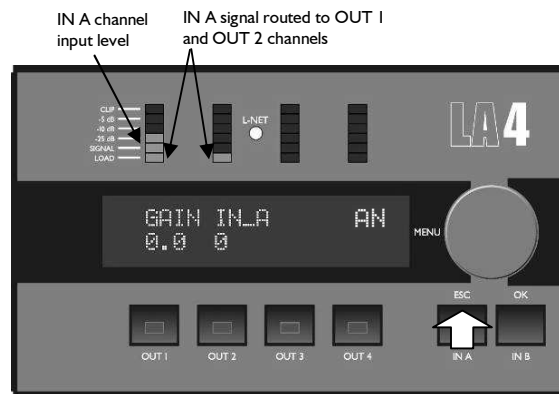
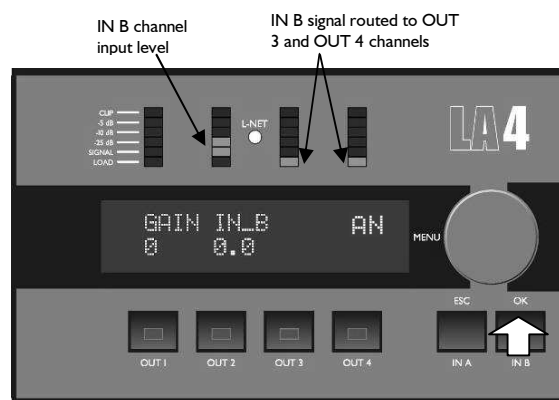

Figure 26: IN A input channel routing and level information
Figure 27: IN B input channel routing and level information
**Note:** The input mode selected for each input channel can be displayed by pressing and holding the IN A or IN B tab. As an example, the top right part of the LCD screens in Figure 26 and Figure 27 show the ANALOG type selection (AN).
As an example (see Figure 26), pressing and holding the IN A key lits the OUT 1 and OUT 2 “LOAD” LED: this indicates that the IN A input is routed to OUT 1 & 2 output channels. The “SIGNAL” and “-25 dB” LED of the first bargraph display lit simultaneously, displaying the level of the signal delivered at the A input of the controller.
Similarly, as shown in Figure 27, pressing and holding the IN B key lits the OUT 3 and OUT 4 output “LOAD” LED: this indicates that the IN B input is routed to OUT 3 & 4 output channels. The “SIGNAL” and “-25 dB” LED of the OUT 2 bargraph display are simultaneously lit, displaying the level of the signal delivered at the B input of the controller.
**Notes:** The input mode (analog or digital) for each input channel is displayed on the top right part of the Figure 26 and Figure 27 screens (see the INPUT MODE menu page in the OPTIONS menu [section 7.3.7]).